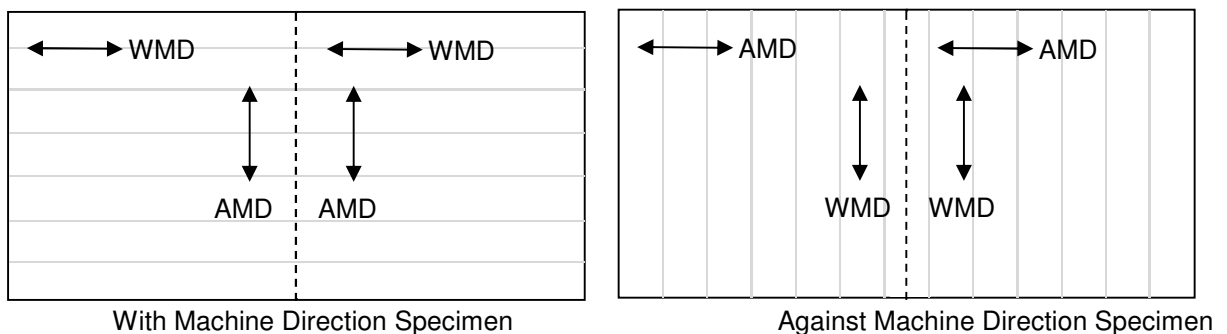

Figure 1. Alignment of 100 X 100 mm squares for machine direction and against machine direction specimens.
2. Assemble 3 pairs with machine direction (WMD) as shown in Figure 1, A-surface facing A-surface to create 3 {WMD} specimens. These specimens are sewn along the against machine direction edge.